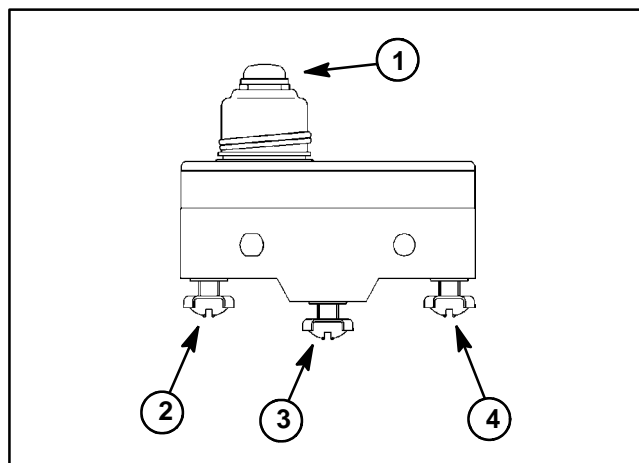

Figure 14
1. Note locations of wire connections at switch (Fig. 14). The common terminal and normally open terminal of the switch are used for the operator presence system. The normally closed terminal is not used.
3. Attach wire harness connectors to the common and normally open switch terminals (Fig. 14). Secure wire connectors to switch.